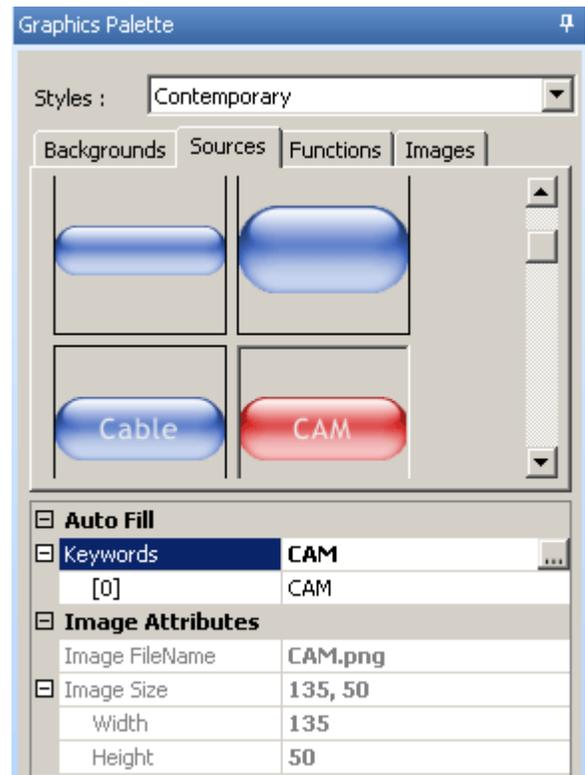

Figure 22 – Selecting Source GTL Style
1. With the **Background** placed in the **System Window**, in the **Graphics Palette**, click the **Sources Tab** to display the **Source Buttons** associated with the selected **Background Style**. If using a *different style Source GTL*, select the **Source GTL Style** from the **pull-down**. The **Source Button options** for a given **Style** will be displayed in the **Graphics Palette**, with the **Image Attributes** of a selected **Source Button** indicated directly below. (**Figure 22**)